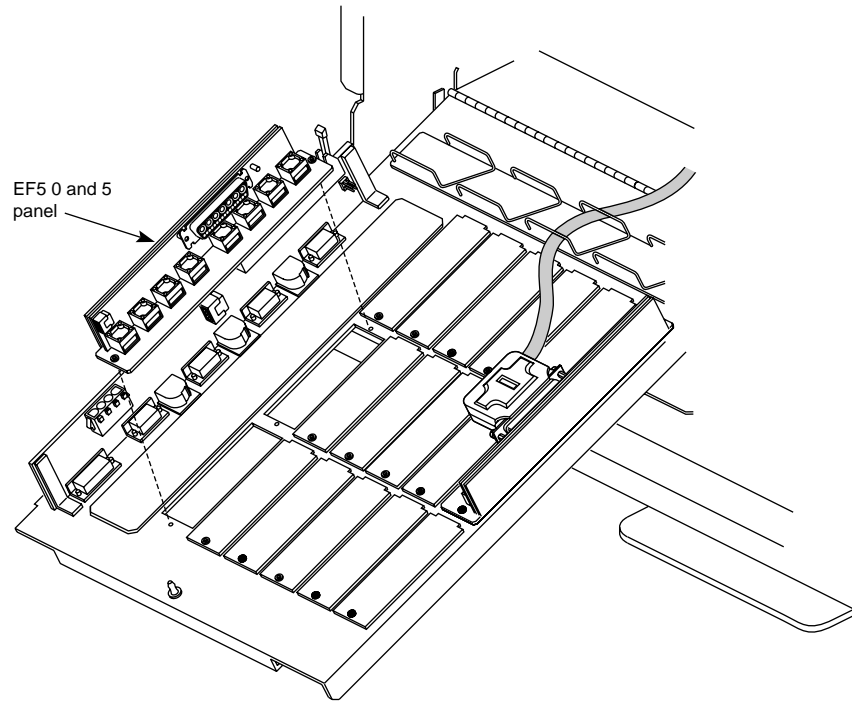

Figure 2-3 Placing the EF5 0 and 5 Board
2. Orient the EF5 panel over the slots, with the top of the panel aligned with the top of the I/O door, as shown in Figure 2-3.